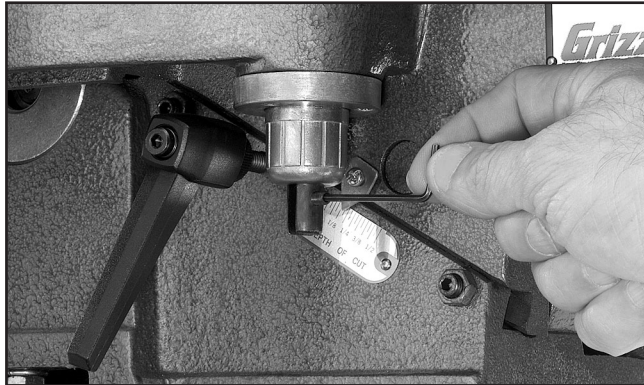

Figure 14. Example of installing cutterhead guard set screw.
- Using a 2.5mm hex wrench, thread the set screw through the hole in the forked end of the cutterhead guard shaft (**Figure 14**).